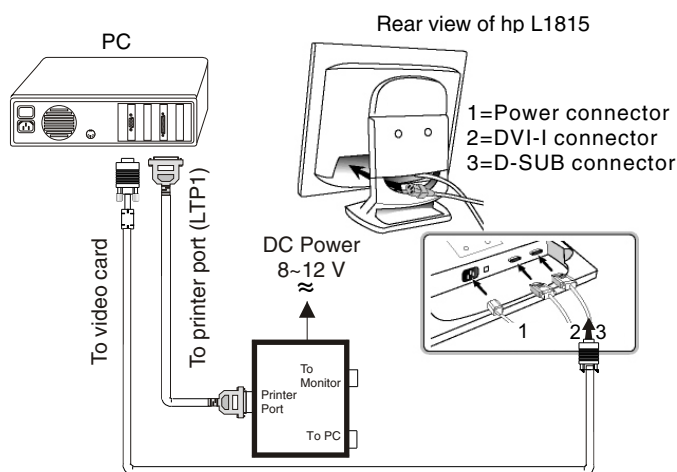

Fig. 3
Step 2: Connecting printer cable and video cable of monitor as Fig. 3